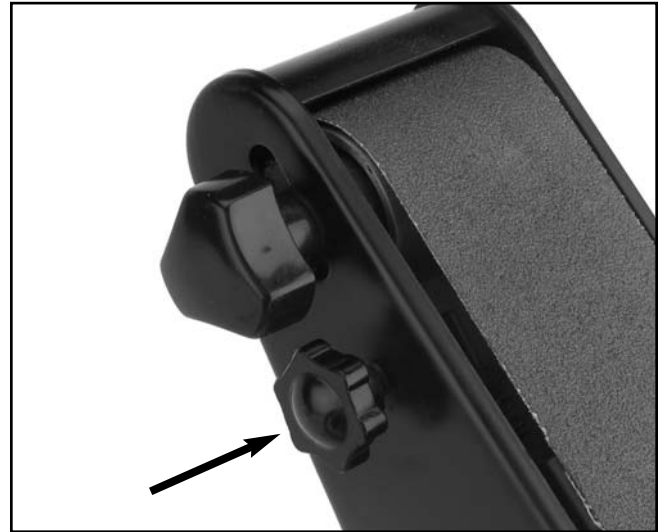

Figure 10. Tracking control knob.
4. Adjust the tracking with the tracking control knob shown in **Figure 10**.